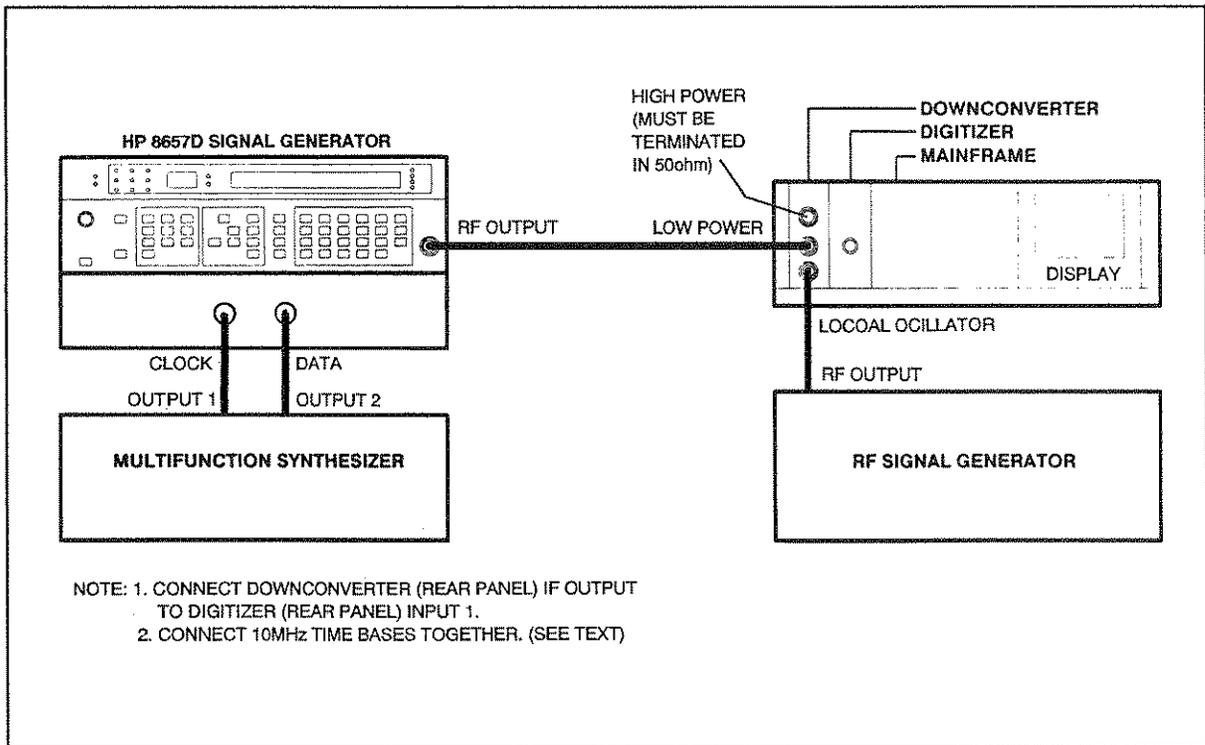

Figure 4-15. $\pi/4$ DQPSK Modulation Test Setup
42. Note the following, and connect the equipment as shown in figure 4-15.